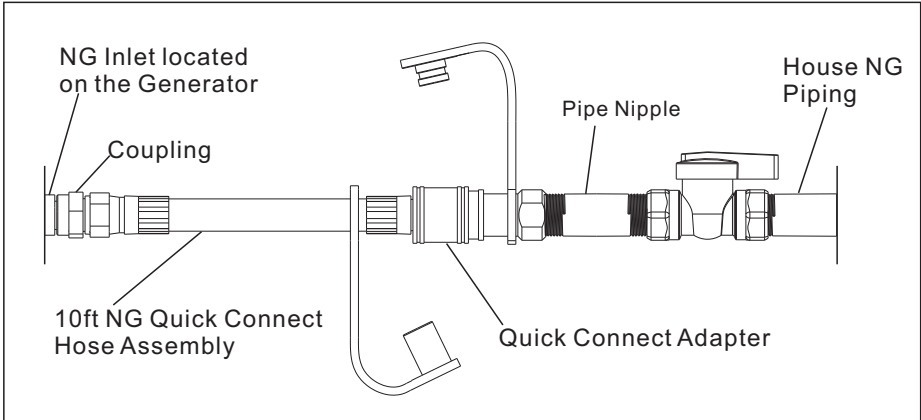

Figure 7
5. Connect the **Coupling** to **Generator**, then connect the **Hose** to both **Generator** and **Quick Connect Adapter**. Make sure the **Generator** is turned **OFF** before connecting the **Hose** to the **Generator** (Figure 7).